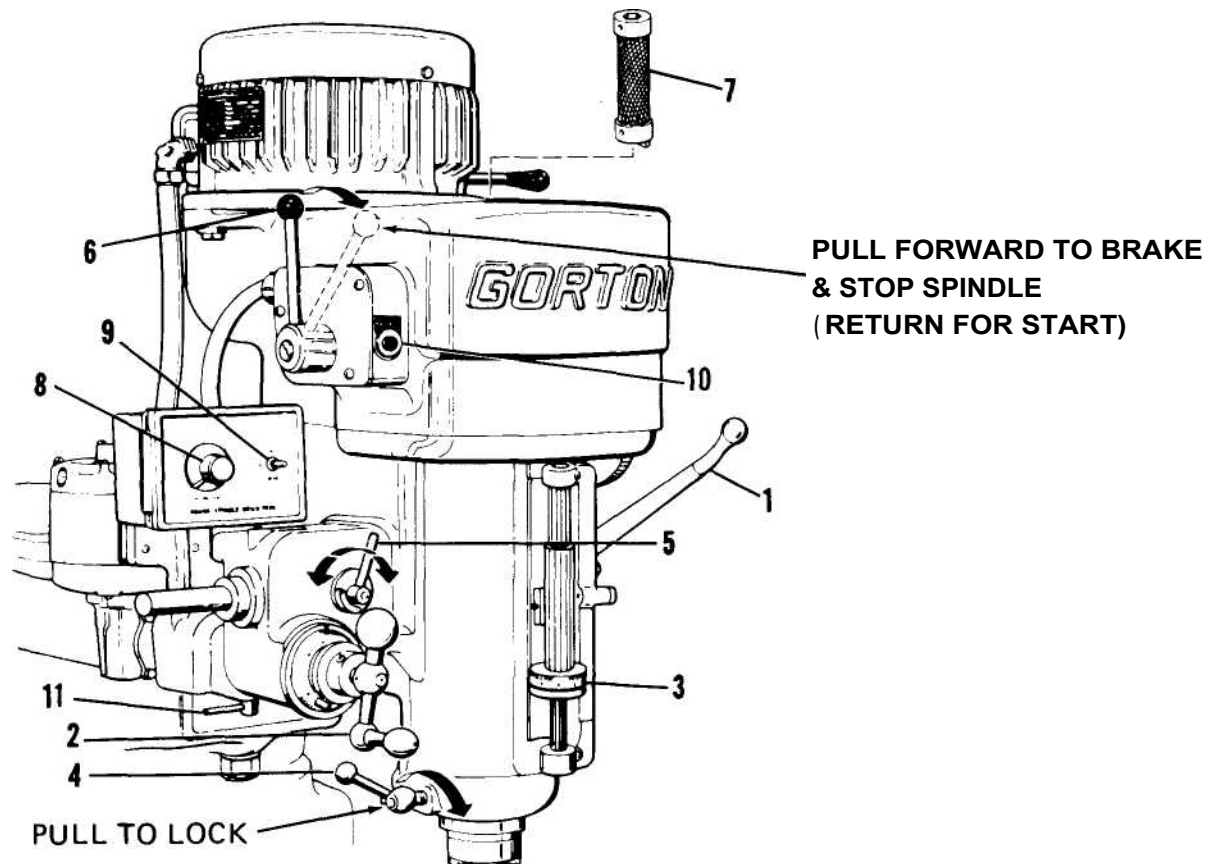

Figure 3. Standard Head, Left Side
### HAND FEED (Figure 3)
### POWER FEED (Figure 3)
### CONTROL OPTIONS (Figure 3)
2. Power downfeed switch (8, figure 3) (when installed - located in upper left corner of downfeed control panel) in "click-off" position (electrically interlocked with table drive).
3. Release table clamp (2).
4. Place direction lever (3) for table in neutral position.
5. Rotate feed rate selector dial (7) clockwise to desired setting.